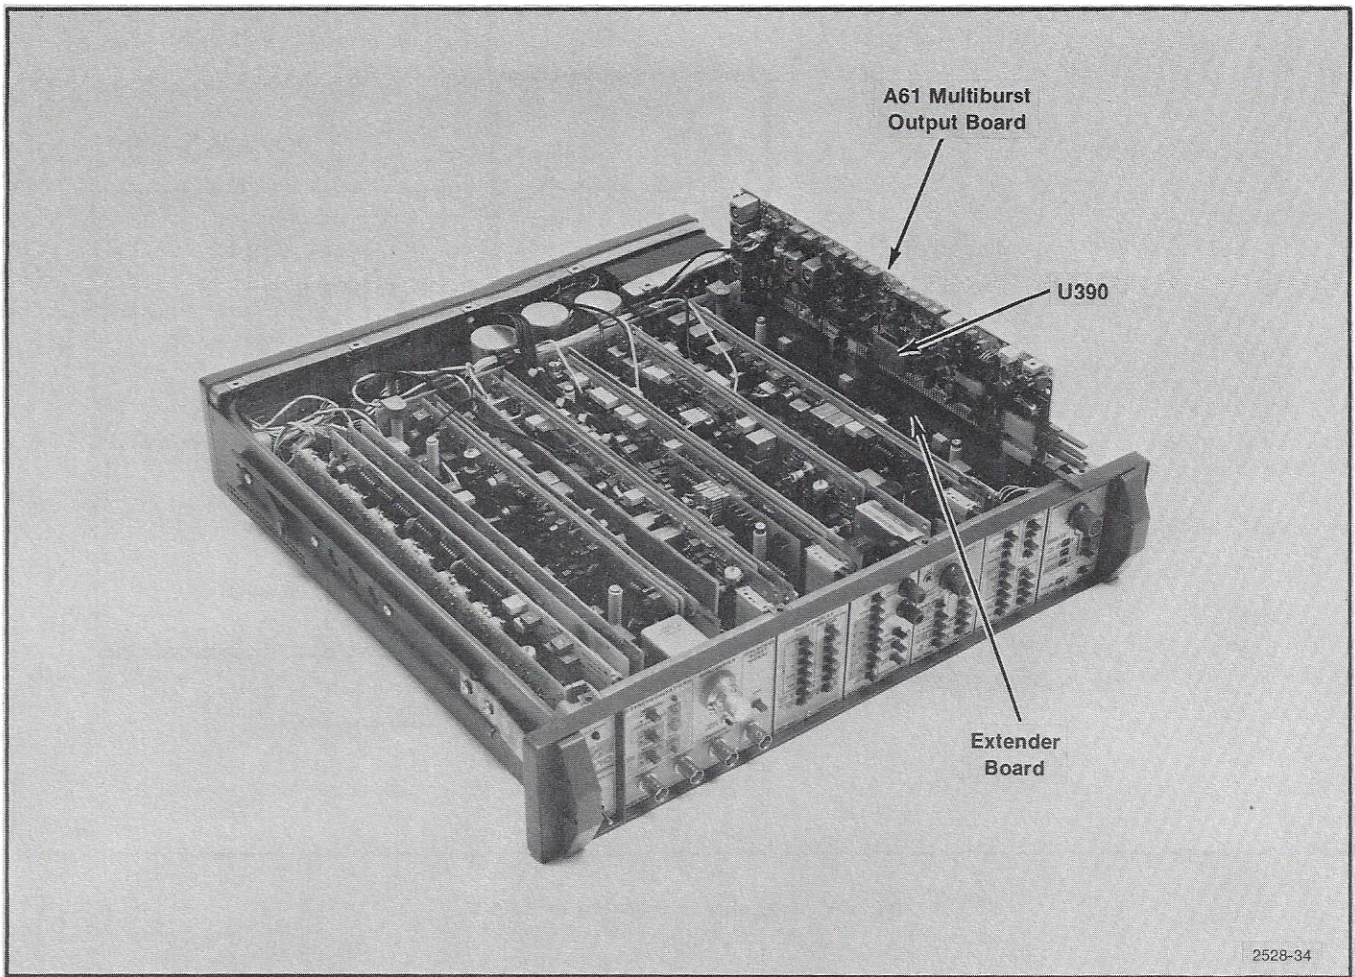

Fig. 4-1. A61 Multiburst Output board mounted on the Extender board.
a. Mount the A61 Multiburst Output board on the 1410 Extender board (see Fig. 4-1). Turn on the 1410 mainframe and allow 20 minutes warmup time at +20°C to +30°C.